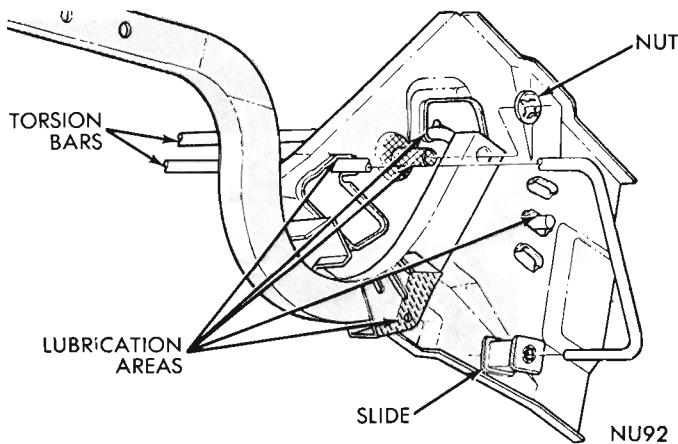

Fig. 29 - Deck Lid Torsion Bar
- (1) Remove deck lid assembly and disengage torsion bar from hinge (Fig. 29) being removed.
- (2) Remove hinge to hinge bracket spring nut and remove hinge.
- (1) Remove torsion bar (Fig. 29) from adjustment slot.
- (2) Push bar out of roller in hinge arm and remove from hinge support.